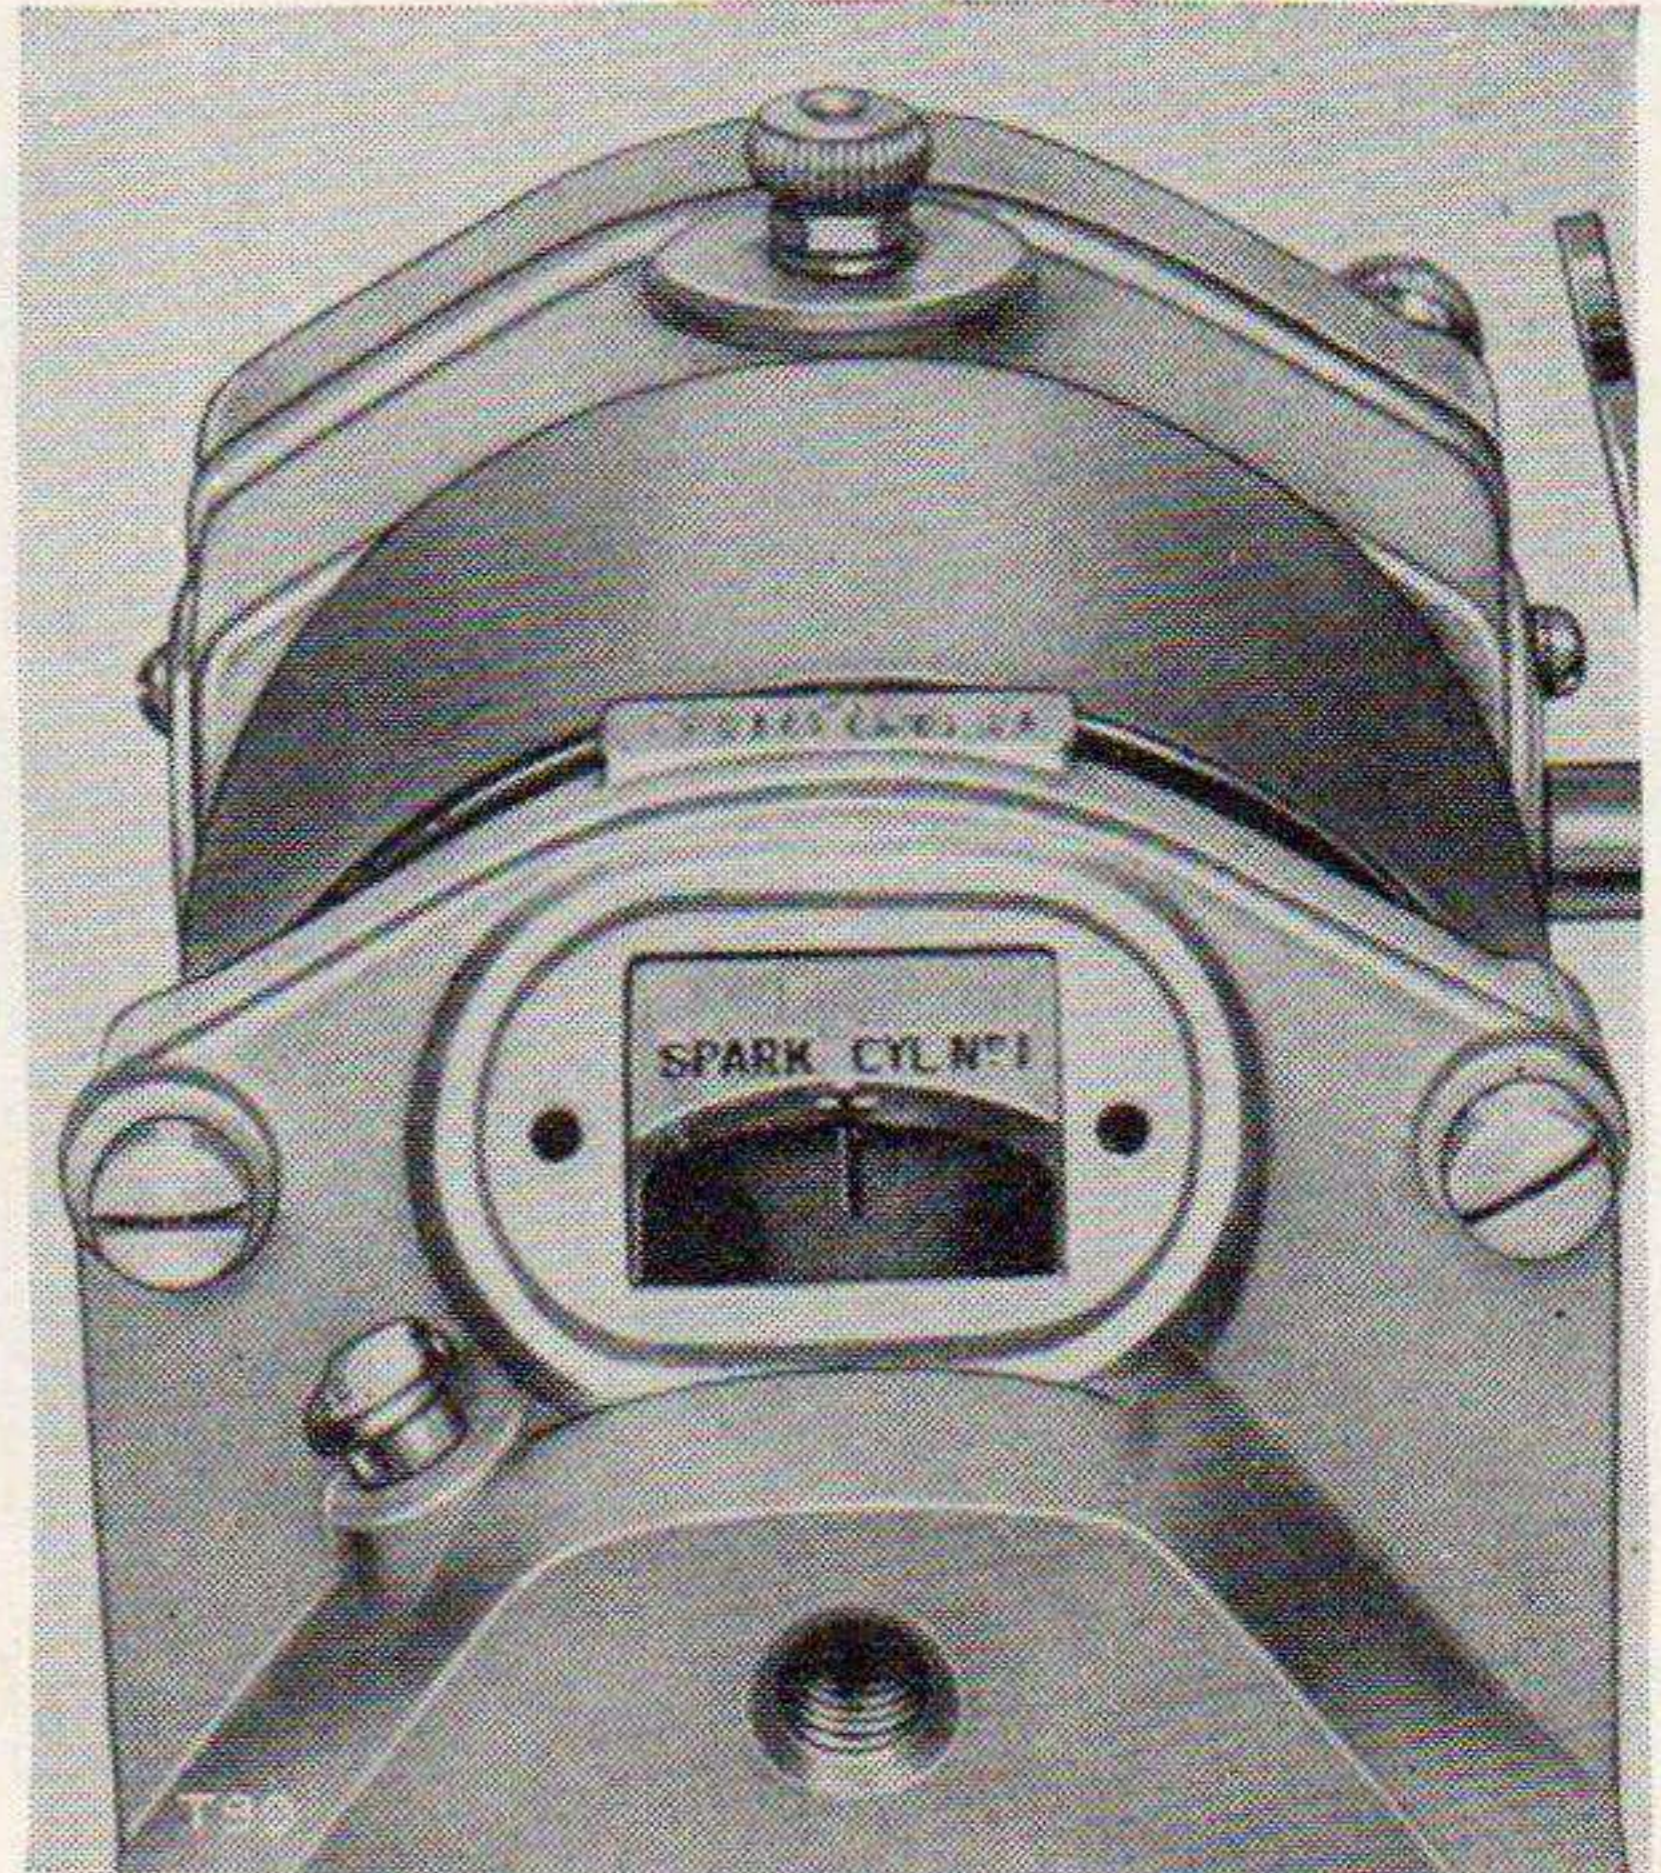

Figure 56. Magneto timing marks.
(2) Remove the small cover from the end of the magneto. (See fig. 56.) Turn the magneto shaft counterclockwise until the